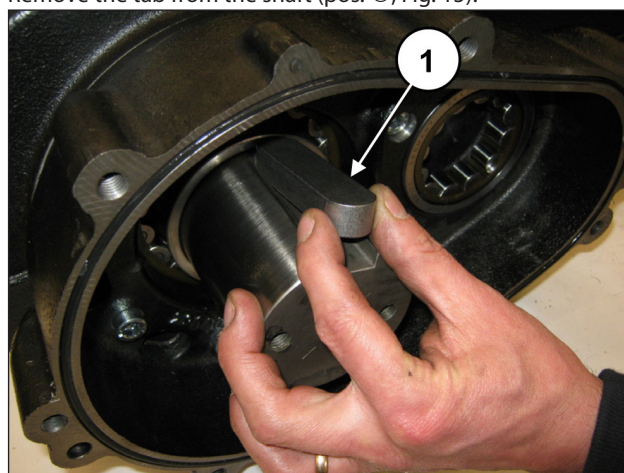

Fig. 15
Remove the tab from the shaft (pos. ①, Fig. 15).